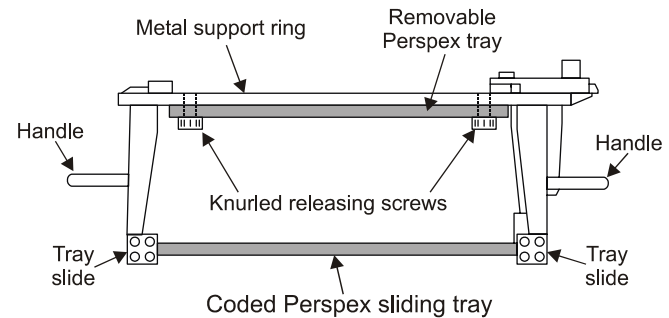

Figure 4. Elekta shadow tray mounting details
- 1** Remove the coded Perspex sliding tray (Figure 4).